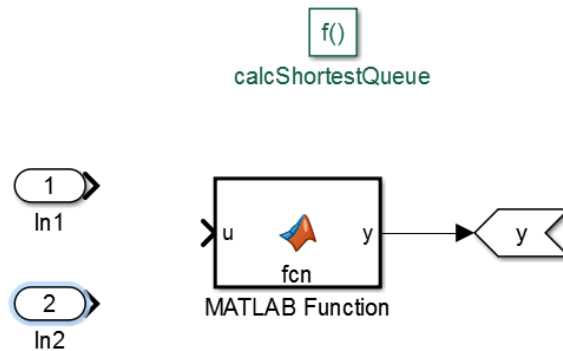

Figure 24: Contents of the Simulink Function block
4. Double-click on the Simulink Function block to edit the contents. Add the two In blocks as well as the MATLAB Function block as shown in Figure 24.